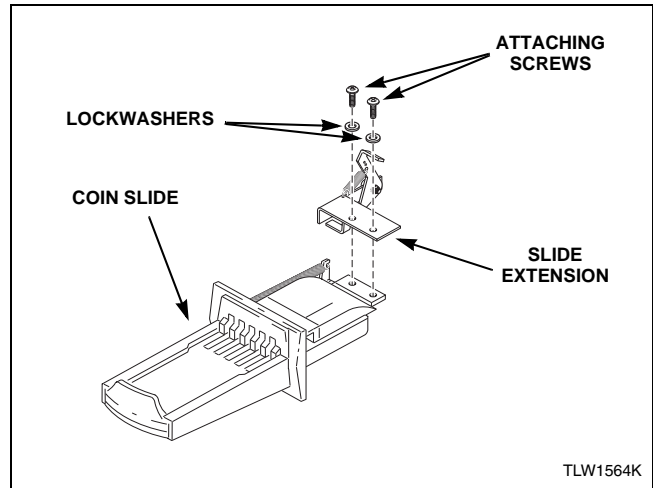

Figure 37
1. Install slide extension onto top of coin slide using two remaining screws and lockwashers. Refer to *Figure 37*.
3. Install slide extension onto top of coin slide using two screws and lockwashers. Refer to *Figure 37*.